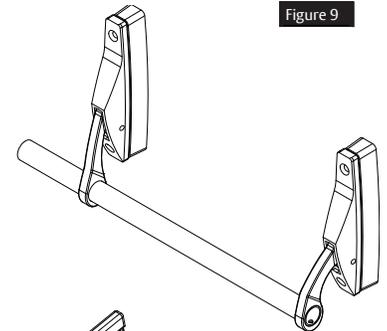

Figure 9
1. Place case in position. Be sure cases are level at same height. (Figure 9)